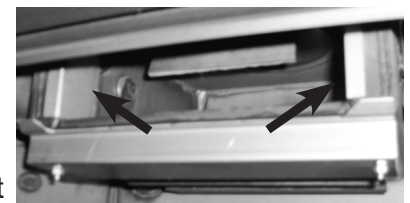

Fig. 14
4. After removing the combustor you will notice stainless bypass retainers on both the left and right sides of the combustor opening (**Fig. 14**). They secure the bypass door in position during operation. Remove the stainless bypass retainers and set aside.